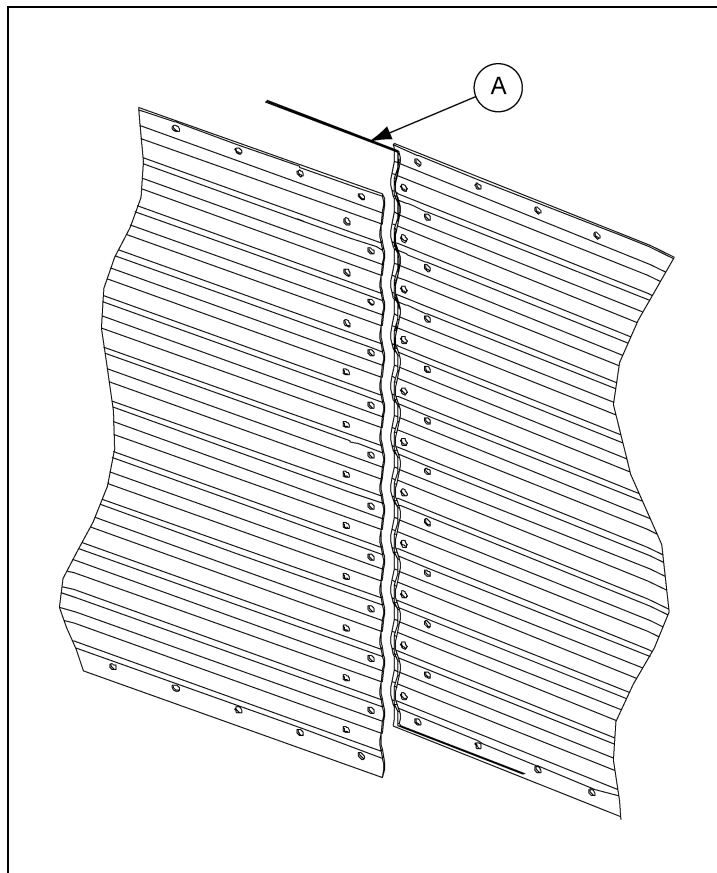

Figure 7C Caulking and Bolting Details (Viewed from Inside of the Bin)
1. Apply a strip of caulk (A) near the outside edge of the outer sheet and between the outer two (2) rows of bolts (A), then apply a strip of caulk 10" (25.4 cm) long along the horizontal seams, as shown in Figure 7C.